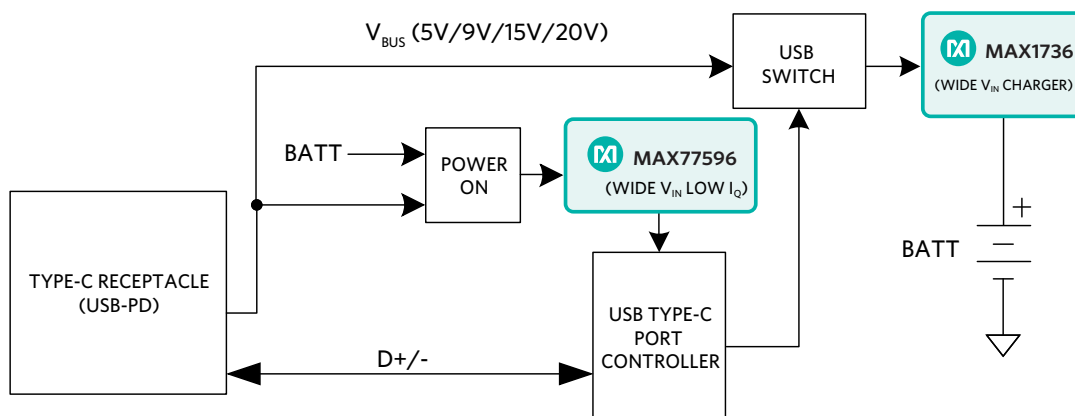

Figure 34. MAX77596 Wide V_{IN} Buck Converter for USB Type-C Port Controller
Prevailing USB type-C technology provides greater power transfer by increasing USB voltage from 5V to either 9V, 15V, or 20V. Mobile devices employ USB port controllers to negotiate battery-charging conditions. Moreover, the port controller power supply requires a wide input voltage range to support USB Power Delivery 3.0 (PD) specifications. The **MAX77596** (Figure 34) regulates output voltage from the default 5V USB voltage or up to 24V to meet all PD 3.0 voltage range specifications. In addition, the port controller is always-on to monitor when a device is plugged in. This requires a low IQ to reduce power consumption and extend battery life. The MAX77596 provides a 1.1μA quiescent current to continuously power the port controller without excessive battery drain. The features of the MAX77596 make it an ideal power supply for USB port controllers.